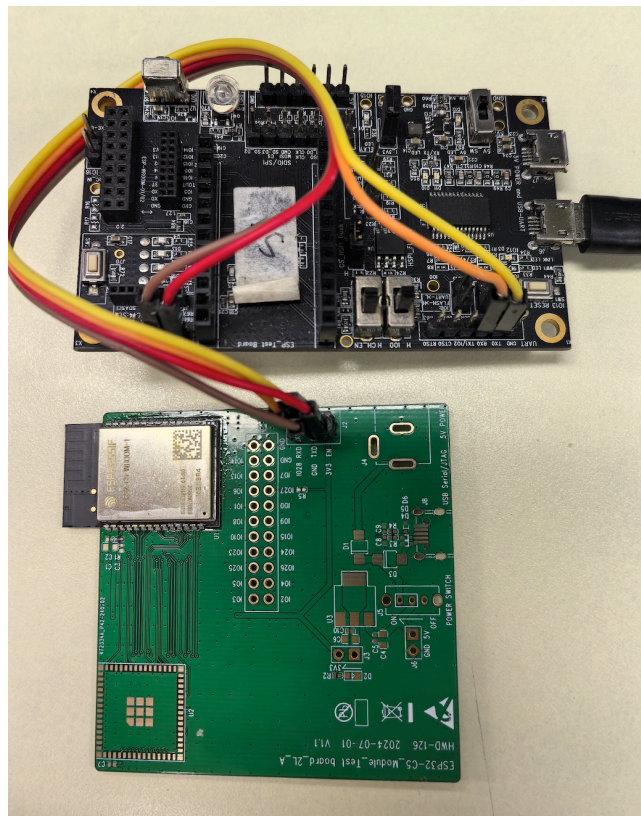

Figure 2: Hardware Connection
1. Solder the ESP32-C5-WROOM-1 module to the RF testing board as shown in Figure 2.